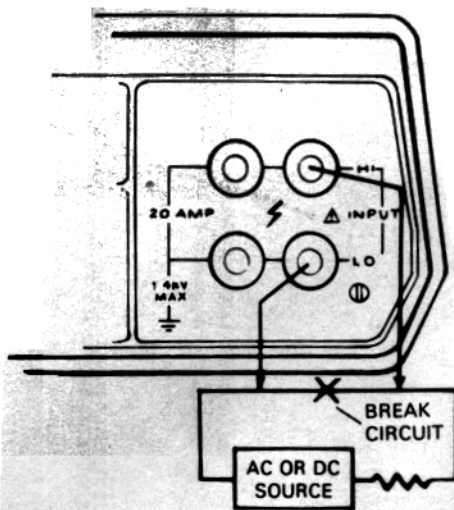

Figure 2-6. Current Measurements Up to 2000mA
- C. Connect the unknown current to the INPUT jacks of the Model 179A as shown in Figure 2-6.